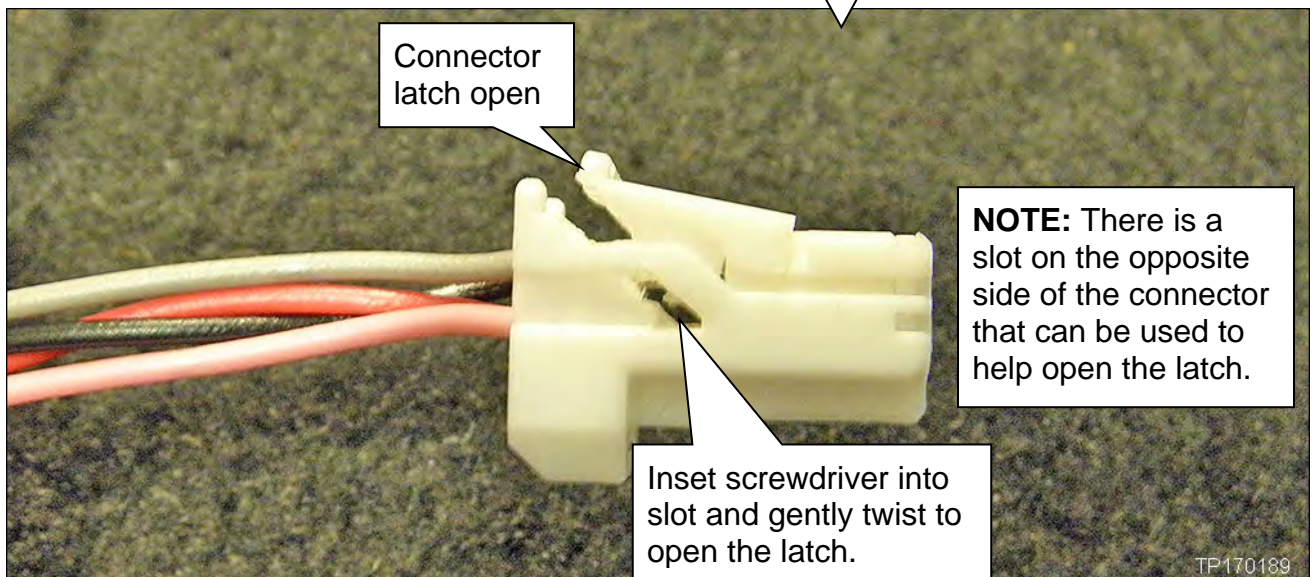

Figure 3
9. Use a small flat-blade screwdriver to open the connector latch (see Figure 3).